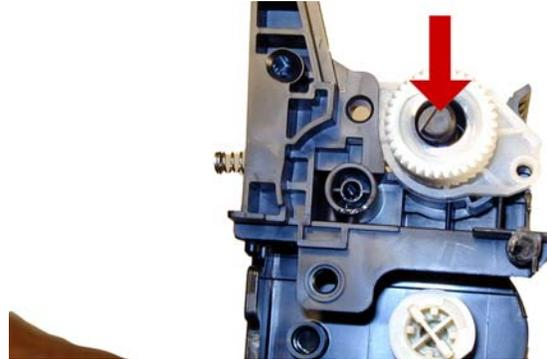

Figure 49
29) Install the mag roller. Turn the stationary magnet so that the keyed end will fit into the end cap. See **Figure 49**